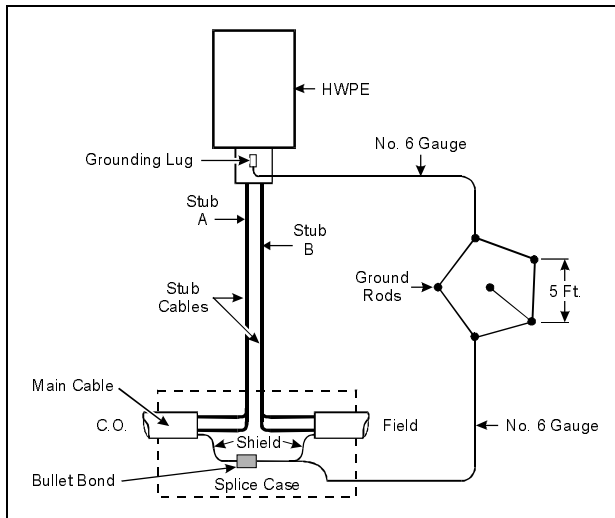

Figure 7. Pole-Mounted Grounding. This diagram shows a grounding circuit for a pole or pedestal mounted enclosures.
PROCEDURE FOR GROUNDING A POLE- OR PEDESTAL-MOUNTED ENCLOSURE (see Figure 7)
12.01 Two cable stubs, A & B shown in Figures 7 & 8, provide the wire access from the HRE-423 to the main cable. Each stub has 28 pairs. The WHT/RED pair in Group 1 of Stub A is the order wire pair. Each cable stub contains two groups of wires, each in its own screened section, (Group 1)